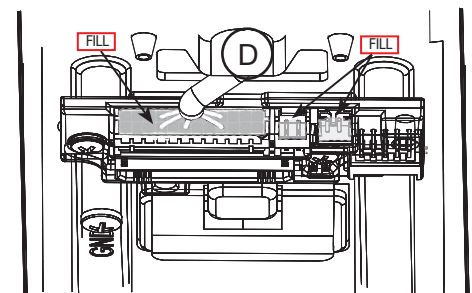

Fig. 16c
- Ensure all openings on back of secured reader connector are covered completely with grease (Fig. 16c).